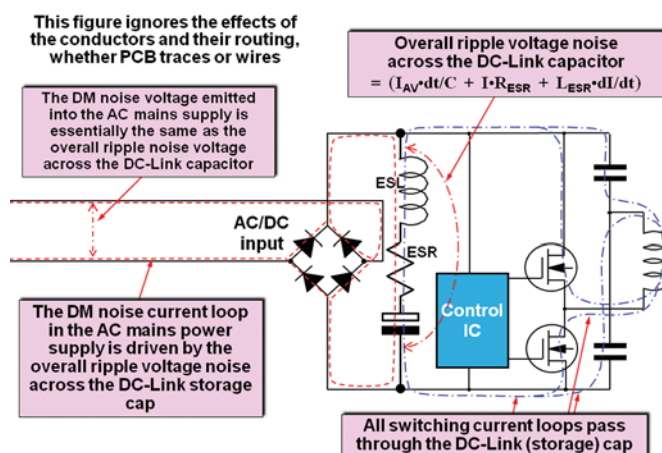

Figure 7.6-6 Showing how the ripple voltage directly influences conducted emissions
Figure 7.6-6 is an example that attempts to show how the ESR and ESL in a DC-Link capacitor increase the ripple voltage noise, and how this drives a differential mode (DM) noise voltage and current through the bridge rectifier and into the AC or DC power supply. This figure is based on a half-bridge switcher, but applies to any/all kinds of switchers that have a DC-Link.
And let’s also assume that it is used as the DC-Link that follows the bridge rectifier in a 230Vac rms input 300W output switching power converter similar to the half-bridge type sketched in Figure 7.6-6, with a switching frequency of 51kHz.
Figure 7.6-6 and this article ignore the effects of the conductors and their routing, whether they are PCB traces, planar bus structures or wires. These non-idealistic effects of what are basically conductors are never covered by circuit simulators,